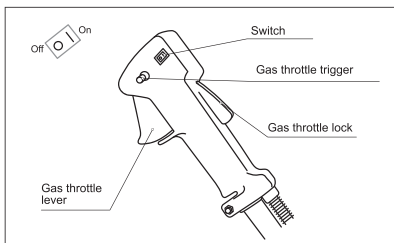

fig. 10
2. Turn the ignition switch, located on the control handle, to the ON / 1 position. Pressing the fuse lever, push the throttle lever (throttle lever) and lock it in the depressed state using the lock (fig. 10).
1. Turn on the ignition using the switch located on the control handle (fig. 10).
2. Pressing the safety lever, push the throttle lever (throttle lever) and lock it in the depressed state with the latch (fig. 10).